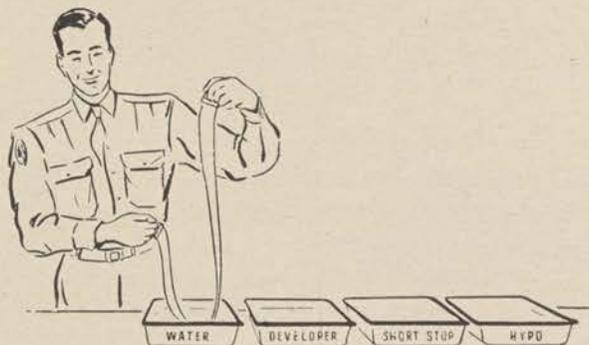

Figure 273.
f. Before starting to develop the film, presoak it in plain water at the same temperature as the developer. Prepare the film for developing by unrolling it (in the dark or by the light of the proper safelight) and tearing off the paper leader and backing. Be careful not to turn loose one end of the film suddenly since it will reroll very quickly and will be scratched. Put a film clip on either end of the film and bend the film into a U-shape, being careful not to coil it. Lower bottom of the U into a tray of plain water, and pass the film back and forth until the entire length is wet (fig. 273). Lift it out and drain it.